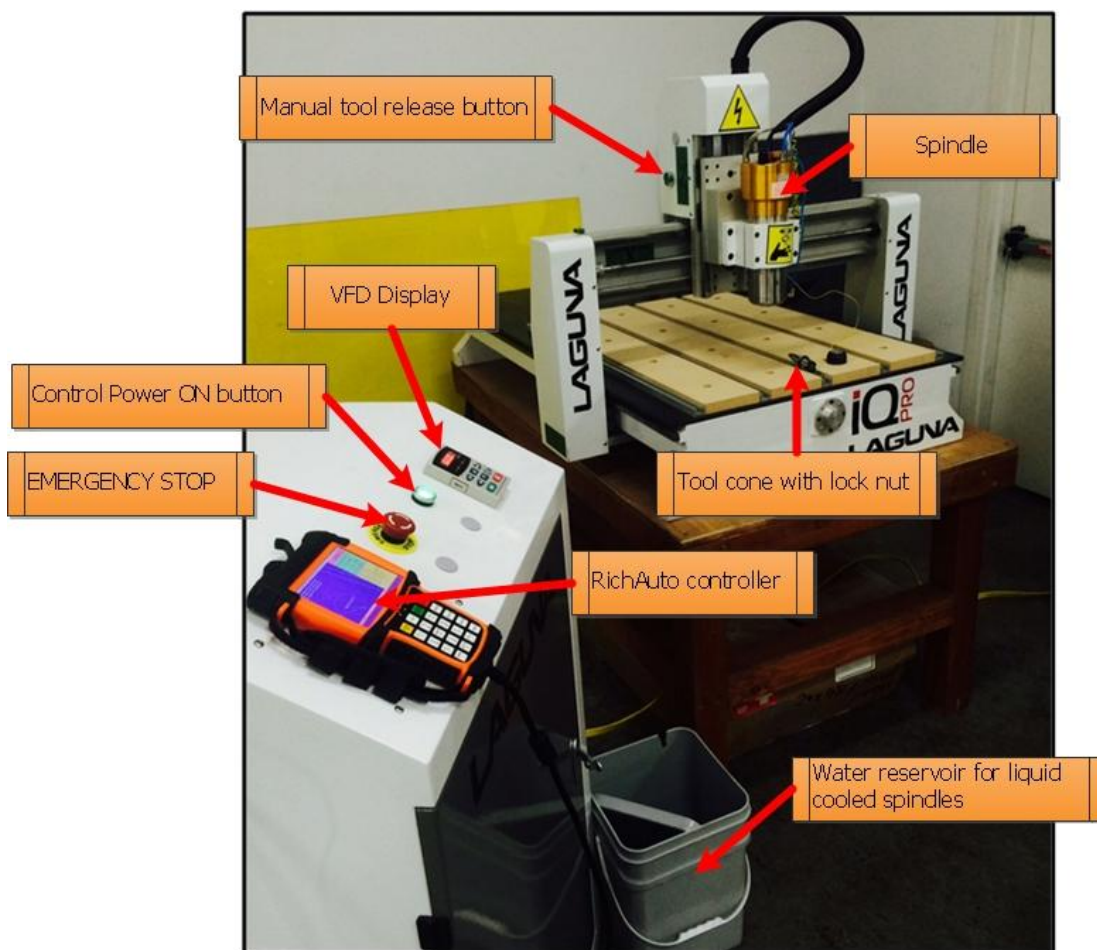

Figure 1. Front view of machine
- Manually - Using the tool release button on the side of tool head (figure 1).